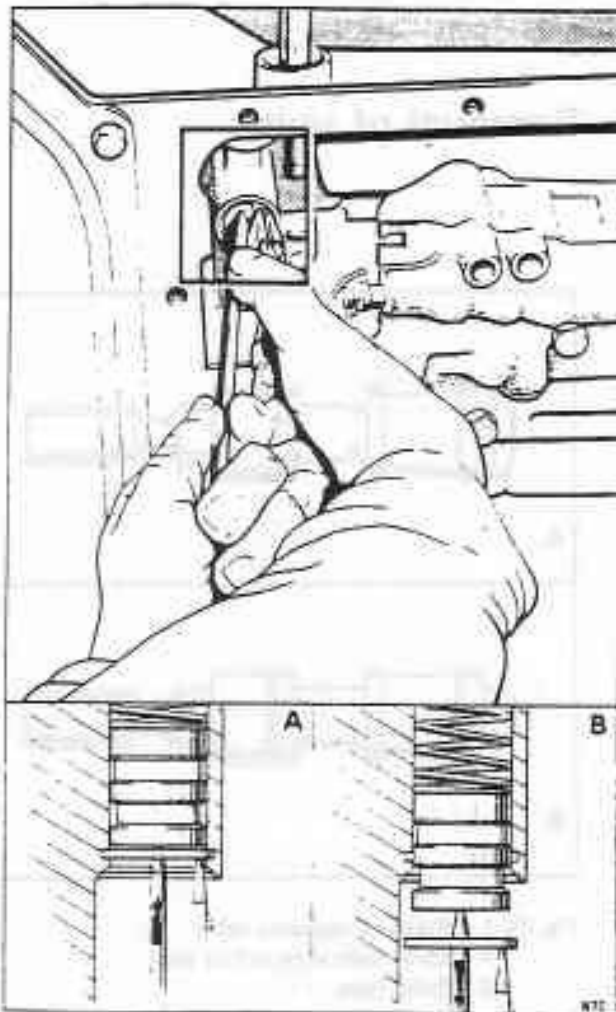

Fig. T4-3 Removing the pressure regulator valve
12. Using a screwdriver or a steel rod, push the regulator boost valve sleeve against the pressure regulator spring (see fig. T4-3).